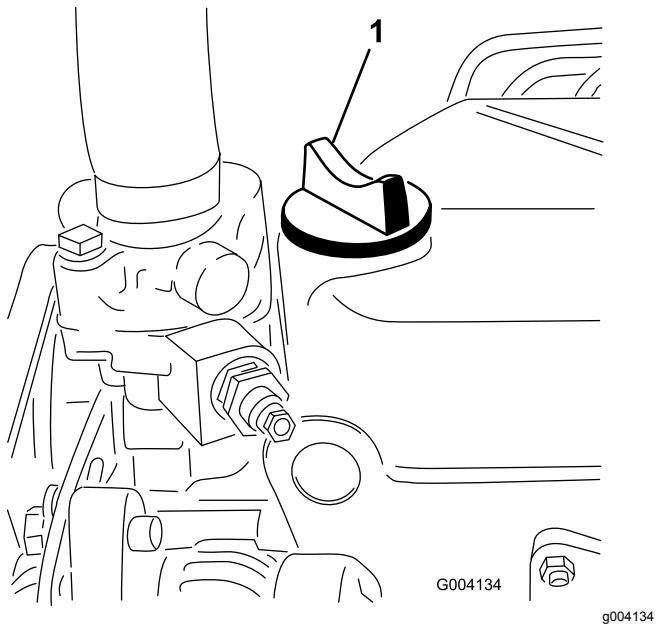

Figure 45
5. If the oil level is below the Full mark, remove the fill cap (Figure 45) and add oil until the level reaches the Full mark on the dipstick.